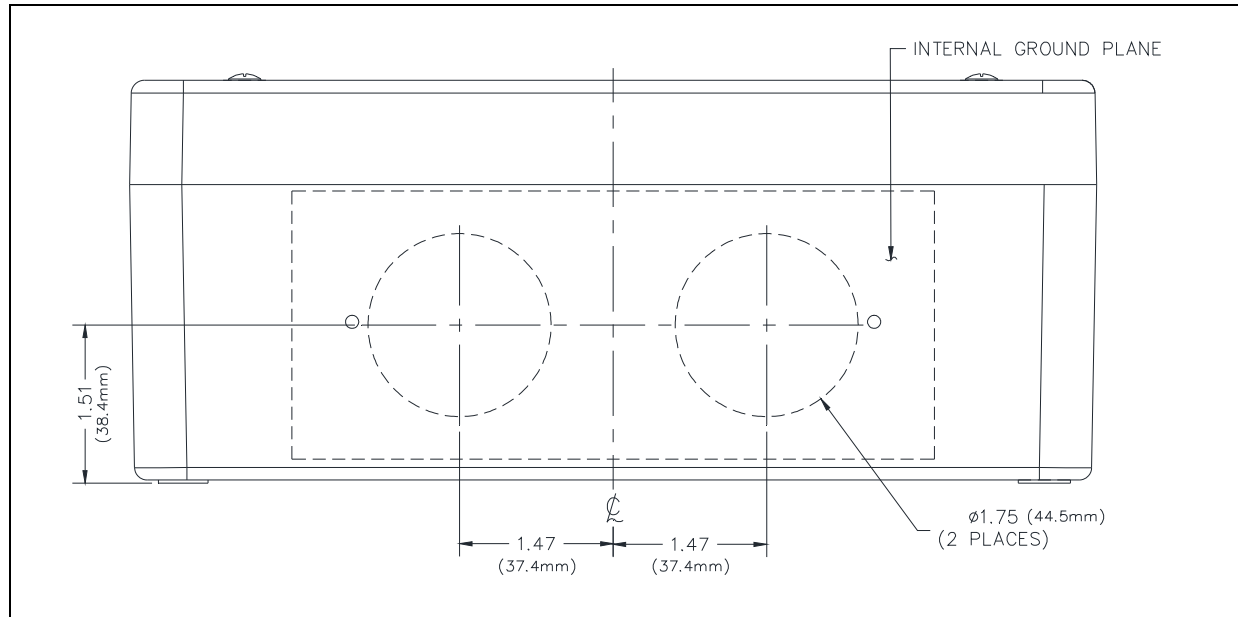

Figure 3. Ground Plate Hole Locations
1. Determine the conduit or cable gland location(s) on the rear enclosure (see Figure 3).